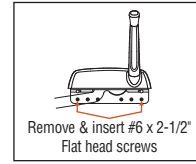

fig. 12
- To fasten the sill, use two #6 x 2-1/2" Phillips Flat head screws. Remove two screws, one from each side of the operator bracket, place a small amount of silicone caulk in the screw hole and insert screws through those holes into the rough opening. (**fig. 12**)